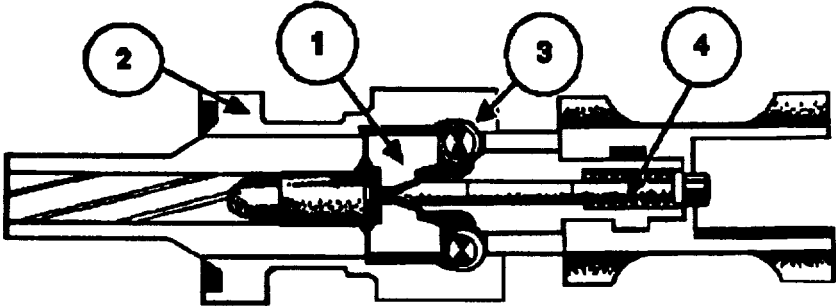

Figure 2-3. Bolt In The Locked Position
c. Locking. The weapon relies on a delayed roller-locked bolt system. During chambering the bolt head (1), Figure 2-3, enters the barrel extension (2). The angled shoulders of the locking piece forces the locking rollers (3) into the contours of the barrel extension, to lock the weapon. The firing pin (4), is now in positioned behind the cartridge for firing.